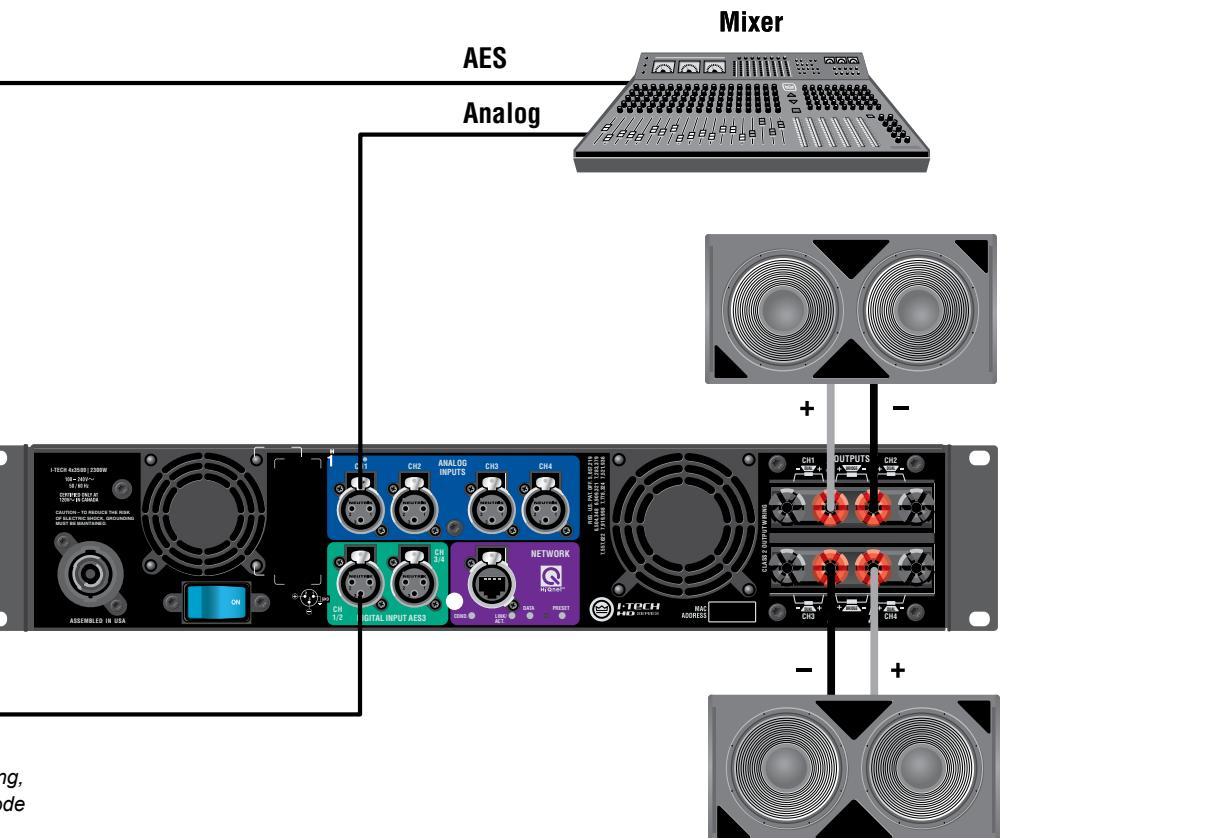

Figure 2.11
INPUTS: There are three ways to connect an input signal to the amplifier (Figure 2.11):
1) Wire the speaker across the red binding post channels 1/2 and 3/4 (Figure 2.11). Do not use the black binding posts when operating in Bridge-Mono mode.